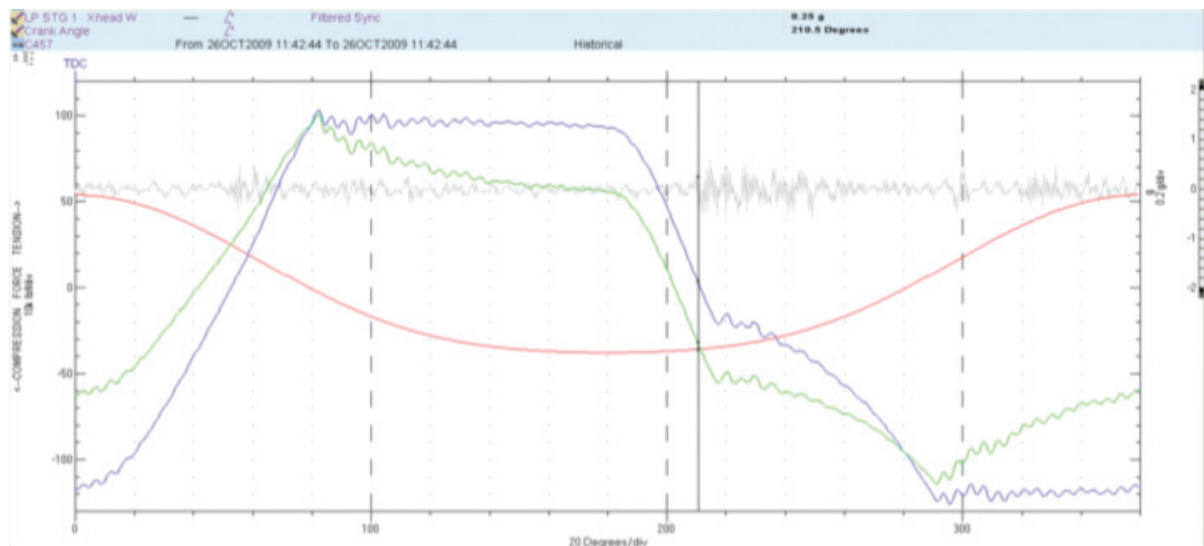
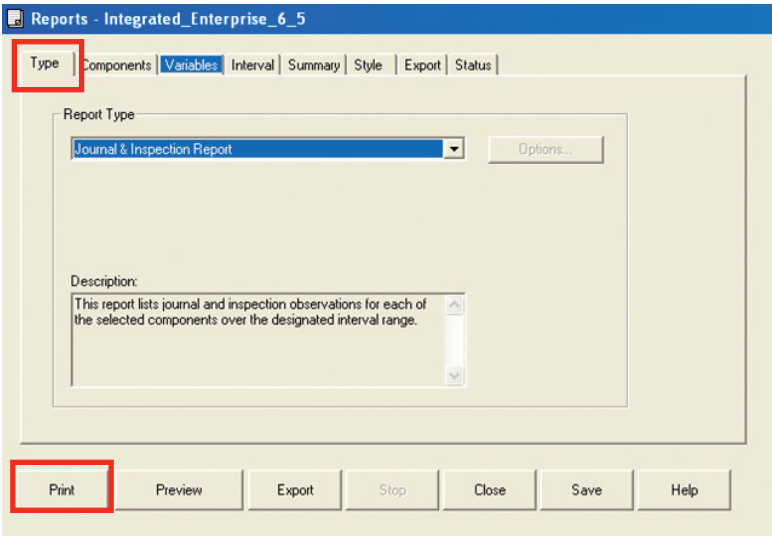

FIGURE 7: 26OCT2009: System 1 software alarm was raised: Alert - Piston Looseness.
FIGURE 6: Selecting Report Type.
Once the Keyphasor is sorted out, click **OK** and head onwards to the rest of the channel configurations! As is evident from the screenshots in Figure 7, re-naming the Keyphasor channels helps to make life a little easier at this step. In the General tab, you can see the following information:
FIGURE 7: Dynamic Channel Configuration window. Observe that the Channel Name and Transducer Orientation columns are pre-populated (outlined in green) while the Machine Name and Shaft Rotation columns are blank until you add this information (outlined in red).
The System 1 Rulepak first identified the looseness event, issuing an “Alert – Piston Looseness” alarm when the overall value was about 0.8 g pk (Figure 7). The vibration was visible in the filtered waveform and increased over time up to 1.2 g pk when the software raised a “Danger – Piston Looseness” alarm.
**6** Select "Journal & Inspection Reports" from the Report Type list in the Report tab (Figure 6). Then use the Interval tab to specify the date range for the report. Finally, click **Print** to produce a summary report of journal entries listed by hierarchy node (Figure 7). ■
FIGURE 7: Example Inspection Report printed for 212-1803 Hydrogen Net Gas Train. The notations that are listed by component come from the historic Journal entries that have been saved for these components.